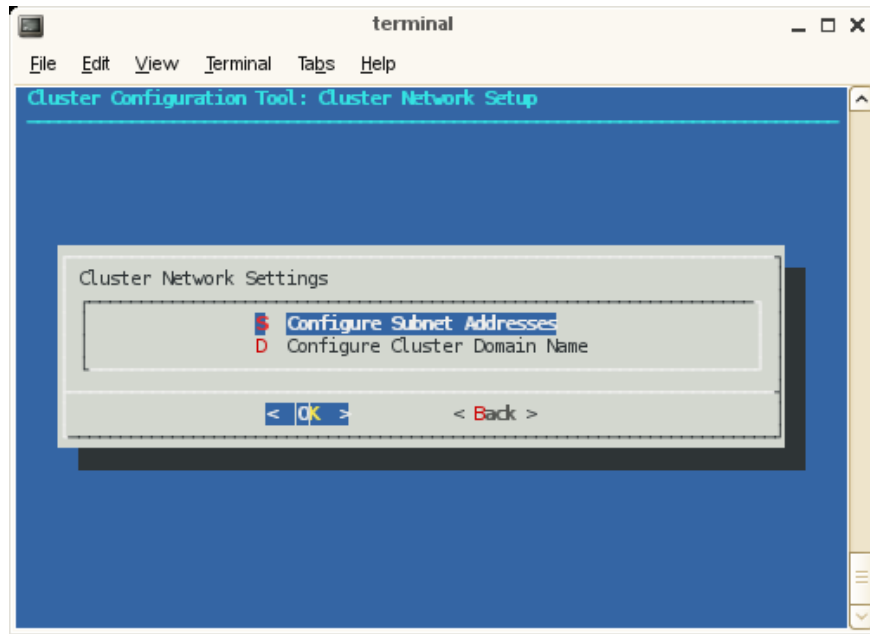

Figure 2-18 Cluster Network Setup Screen
10. After choosing the **Network Settings** option, the **Cluster Network Setup** screen appears, as shown in Figure 2-18 on page 54.